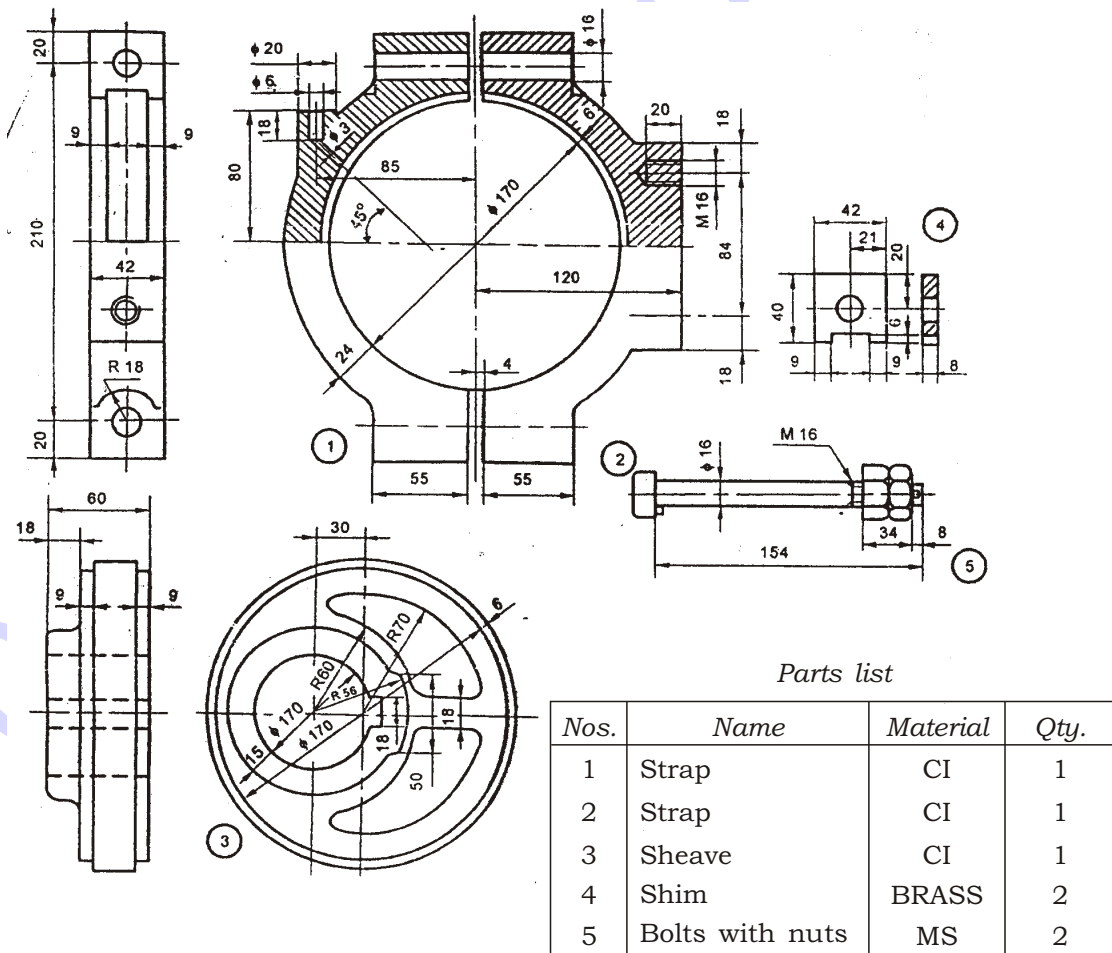

Fig. 1
- Instructions :** (1) Answer *any one* question.
(2) Each question carries **forty** marks.
(3) All dimensions are in mm and assume missing dimensions, if any.
- 5.** The details of eccentric are shown in Fig. 1. Assemble the parts and draw the following :